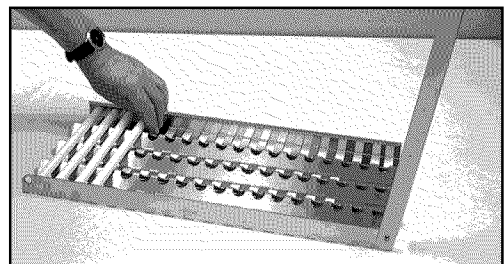

FIG. 23
3. Place 18 ceramic rods on the radiant (Fig. 23).